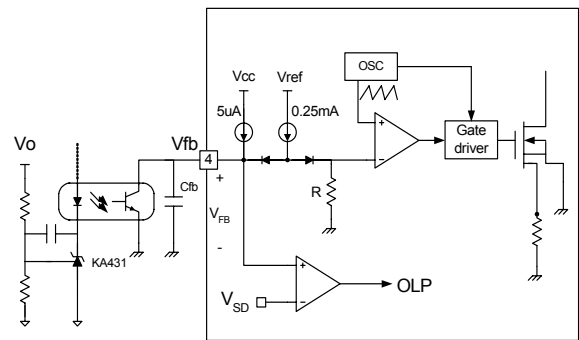

Figure 8. PWM and Feedback Circuit
**2. Feedback Control :** The FSD200B/210B are voltage mode controlled devices as shown in Figure 8. Usually, an opto-coupler and KA431 type voltage reference are used to implement the feedback network. The feedback voltage is compared with an internally generated sawtooth waveform. This directly controls the duty cycle. When the KA431 reference pin voltage exceeds the internal reference voltage of 2.5V, the optocoupler LED current increases, the feedback voltage Vfb is pulled down and it reduces the duty cycle. This will happen when the input voltage increases or the output load decreases.